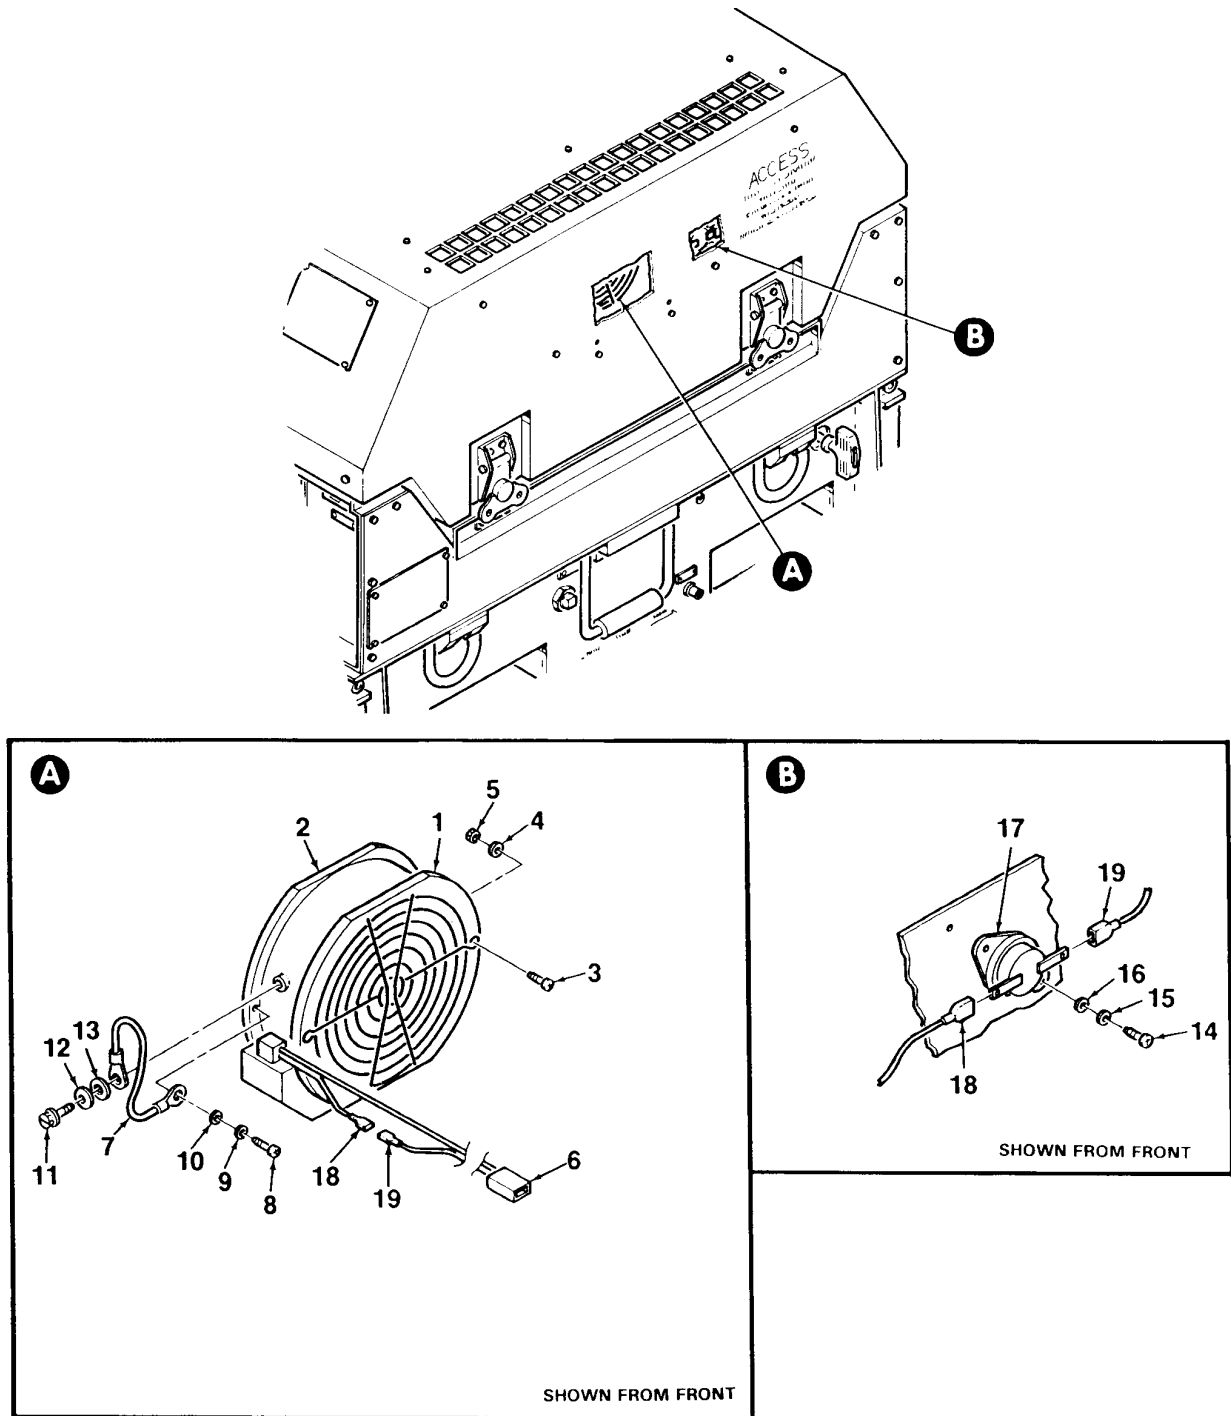

Figure 4-41. Low Temperature Switch and Cooling Fan Installation
1. Mate low temperature switch S21 (17, Figure 4-41) (85° F) to main access cover and secure using two screws (14), lockwashers (15), and washers (16). Connect two electrical wires (18, 19) to temperature switch.
2. Mate low temperature fan (2) to main access cover and secure using two screws (8), lockwashers (9), and washers (10). Left hand screw (8) secures electrical wire (7).
3. Connect fan power cord (6) to generator set wiring harness. Connect wire (7) to fan using screw (11), lockwasher (12), and washer (13).
4. Install finger guard (1) onto low temperature fan (2) using two screws (3), washers (4), and nuts (5).